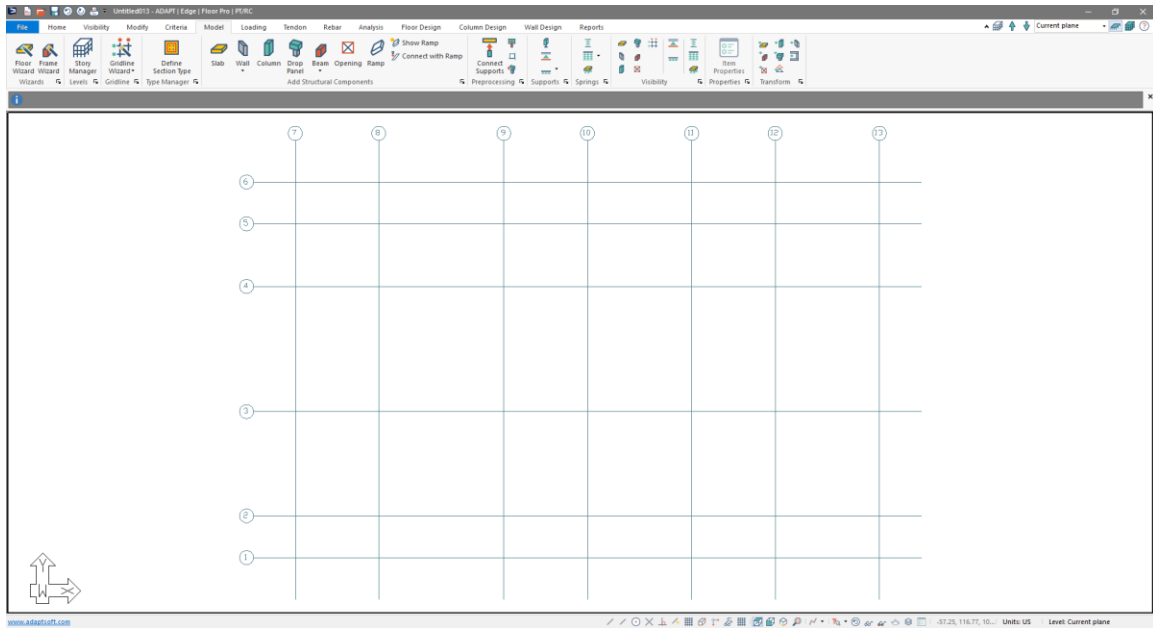

Figure 2-4
- Click on the *Zoom Extents* icon  in the **Bottom Quick Access** toolbar. The user should see the gridlines for the model as shown in **FIGURE 2-4**. Note that at this point the gridlines have been numbered sequentially.